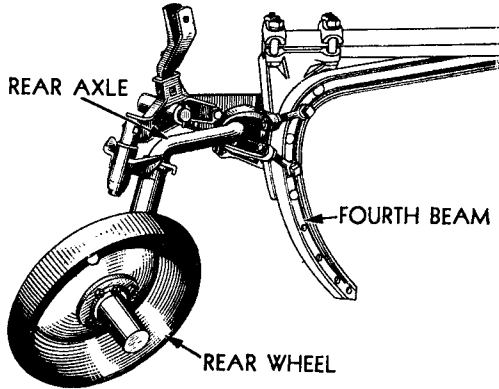
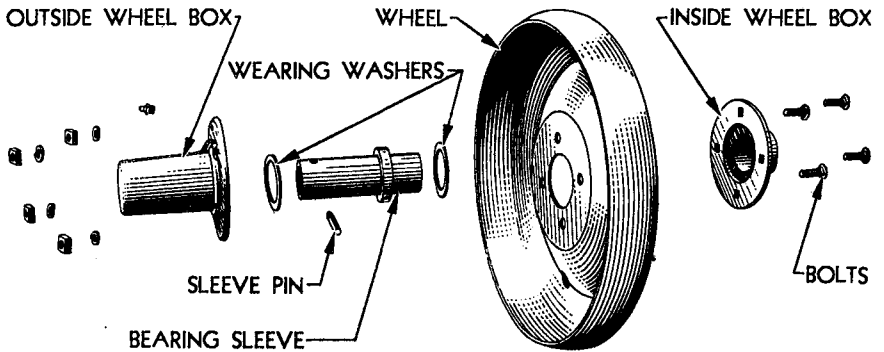

FIGURE 8—ATTACHING REAR AXLE AND WHEEL
FIGURE 9—ASSEMBLING REAR WHEEL
7. REAR AXLE AND WHEEL.—Attach rear axle onto fourth beam. (Figure 8.) Place inside box with rear wheel on axle. (Figure 9.) Place wearing washer and bearing sleeve on axle and pin rigidly to axle. Grease wheel sleeve thoroughly with No. 3 Cup Grease or its equivalent. Place wearing washer and outside wheel box on axle and bolt tight.